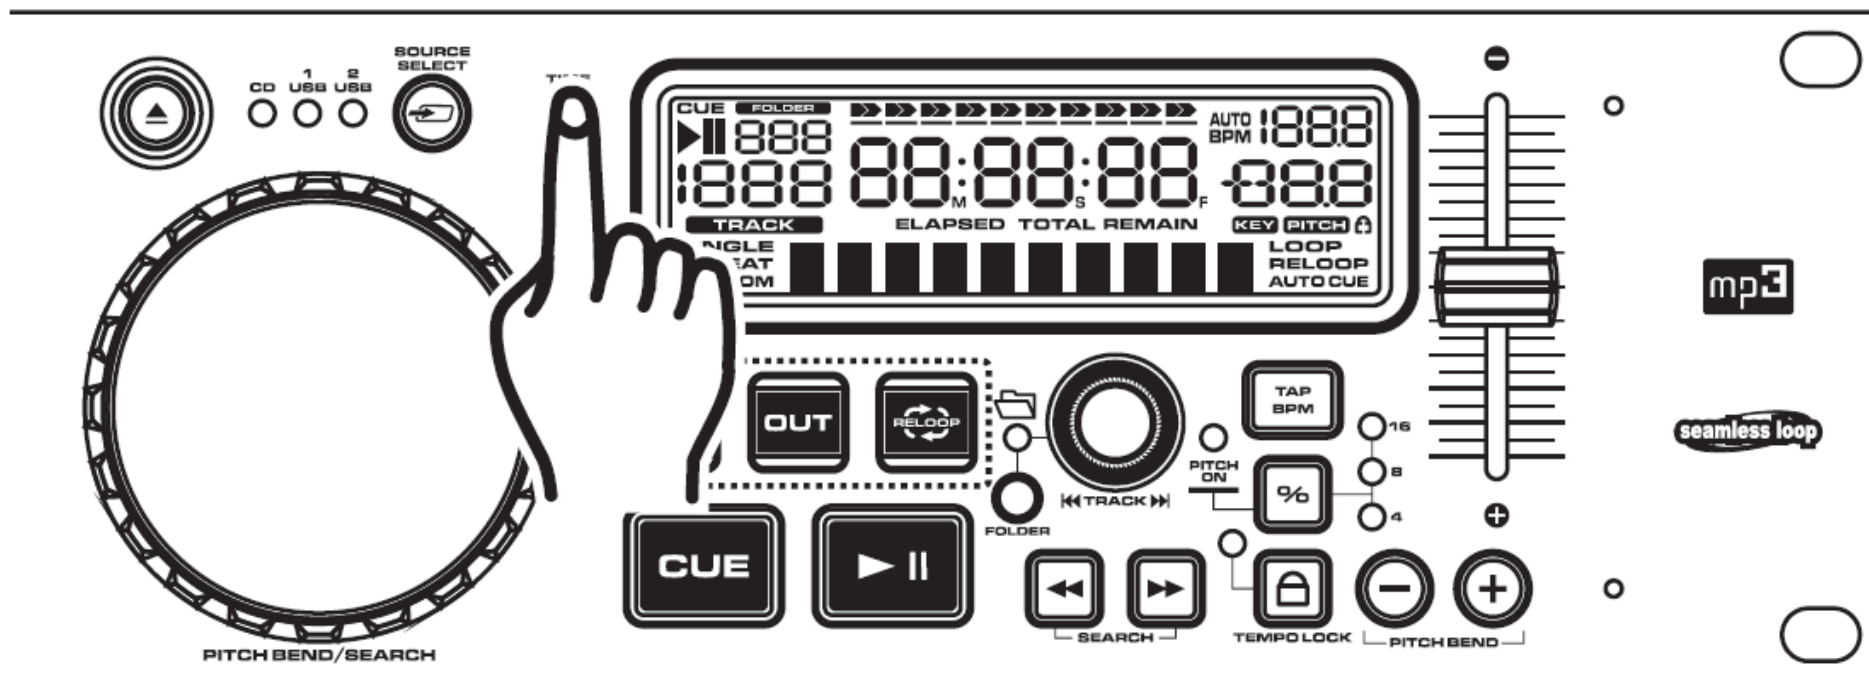

Figure 14
The time may be displayed in three different modes; Total Remain, Remain, and Elapsed. During normal playback, pressing the TIME button (5) as in Figure 14, will change the time display information (26) in the LCD. The following is a break down of the time settings and their definitions:
- Total Remain (34) - This details the time in the LCD as the current CDs' total remaining time.
- Remain (34) - details the time in the LCD as the current tracks' remaining running time.